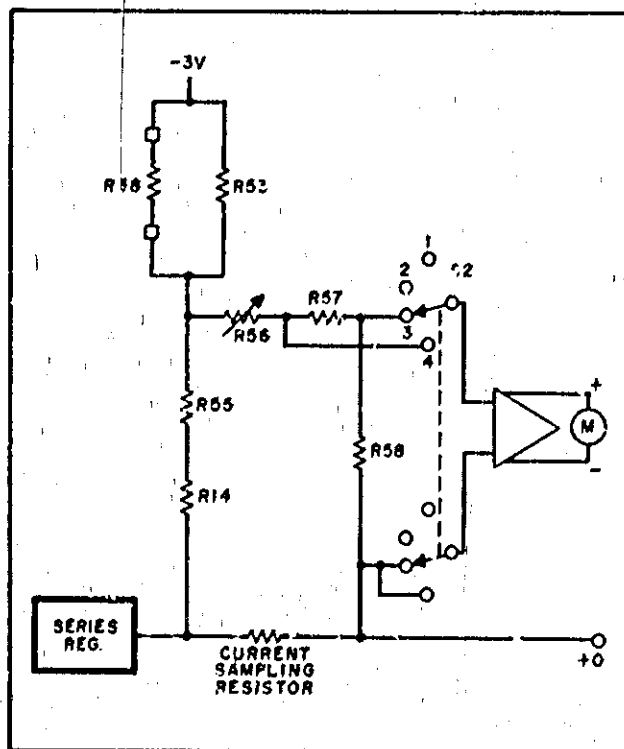

Figure 4-6. Ammeter Connections, Simplified Schematic
4-51 With S2 in the higher current range position (Figure 4-6) the voltage drop across R58 is applied to the meter amplifier and the meter indicates the output current which flows through R54. For low values of output current, S2 can be switched to position (1) and the voltage drop across R57 and R58 is applied to the meter amplifier.